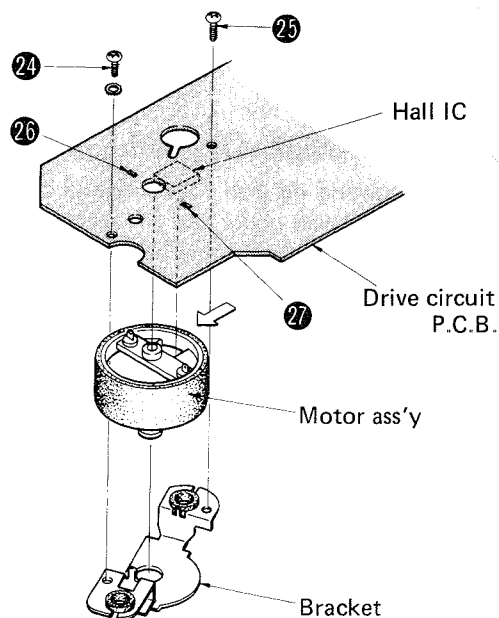

Fig. 4
3. Disengage the motor bracket fitting screws ㉔ , ㉕ and disconnect the soldered motor terminals ㉖ , ㉗ then the motor can be detached. (See Fig. 4)
4. For assembling, mount the motor so as the arrow on Fig. 4 comes to the position of hall IC (IC 1).